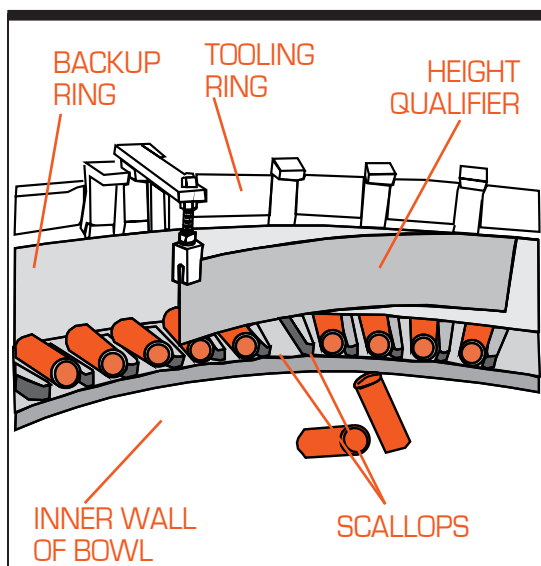

Figure 1-2. Qualifying Parts in Scallops
Step 2—The FS-40/50-RD Feeder Loads and Qualifies Your Parts. After dropping onto the rigid disc, parts load quickly onto the scalloped rim of a rotating bowl. The parts singulate between scallop fingers which help orient the parts (see Figure 1-2).